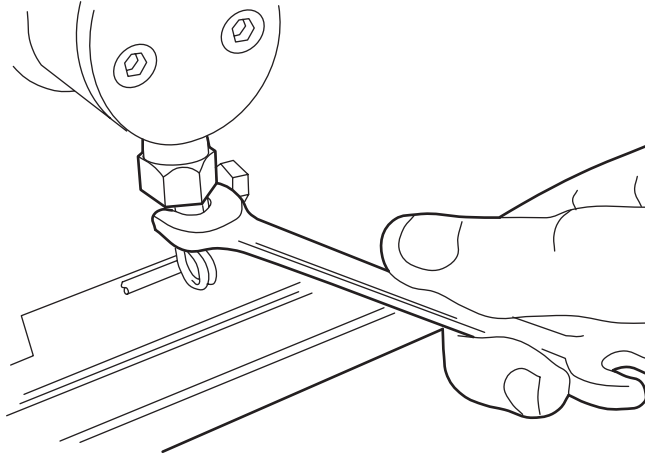
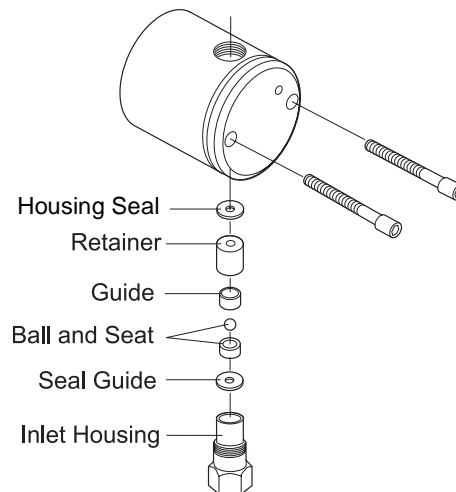

Figure 4-10 Inlet Check Valve Removal
Figure 4-11 Inlet Check Valve Assembly
6. Using a 1/2-inch wrench, remove the inlet check valve assembly and disassemble by tipping the housing upside down. See Figure 4-10 and Figure 4-11.
7. Check the retainer and the ball and seat for damage or debris (Figure 4-11). Clean or replace worn parts as necessary. The housing seal, which may be difficult to remove, does not normally need to be replaced.